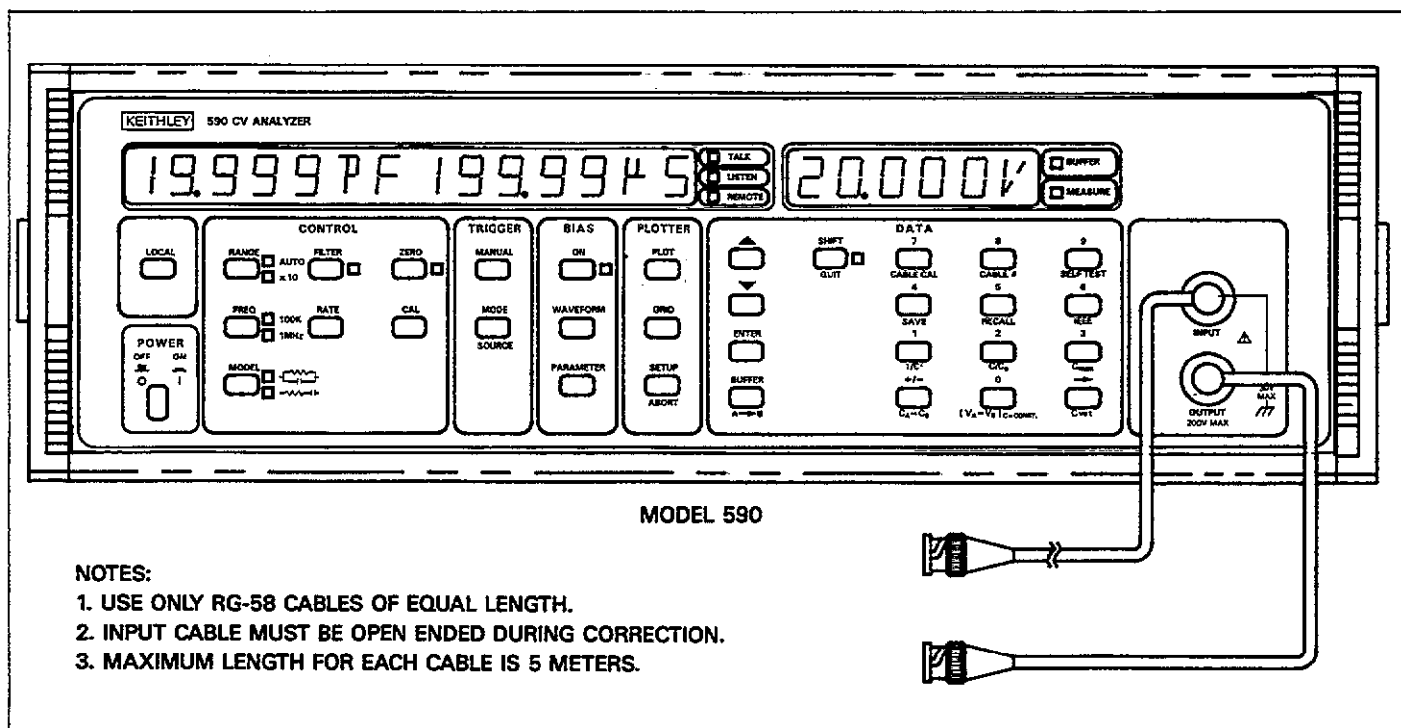

Figure 3-52. Connections for Cable Correction
4. Connect two identical **RG-58** cables of equal length to the front panel of the instrument as shown in Figure 3-52. Note that the opposite end of the cable connected